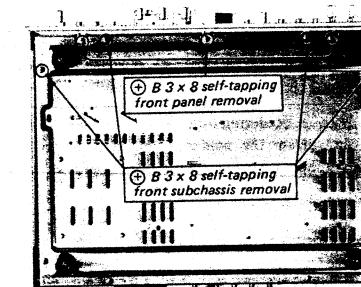
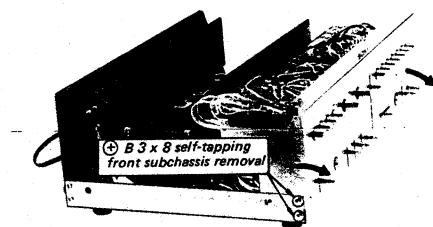

Fig. 2-1. Front panel and front subchassis removal
Fig. 2-3. Front subchassis removal
3. Remove the three self-tapping screws (\oplus B 3 x 8) at the front bottom of the chassis as shown in Fig. 2-1. This frees the front panel.
2. Remove the four self-tapping screws (\oplus B 3 x 8) at the front bottom of the chassis (See Fig. 2-1) and the two self-tapping screws (\oplus B 3 x 8) at each side of the chassis as shown in Fig. 2-3.
3. Tilt the front subchassis along with the front panel in the arrow direction in Fig. 2-3.